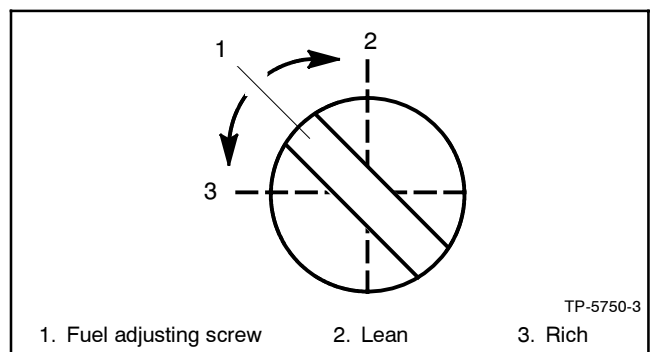

Figure 9-30 Fuel Mixer Adjustment, Typical
- a. Adjust the fuel metering valve (Figure 9-30) as required to obtain a 0.8–0.9 VDC oxygen sensor output. The oxygen sensor output reads high when the mixture is richer and close to zero volts when the mixture is leaner.